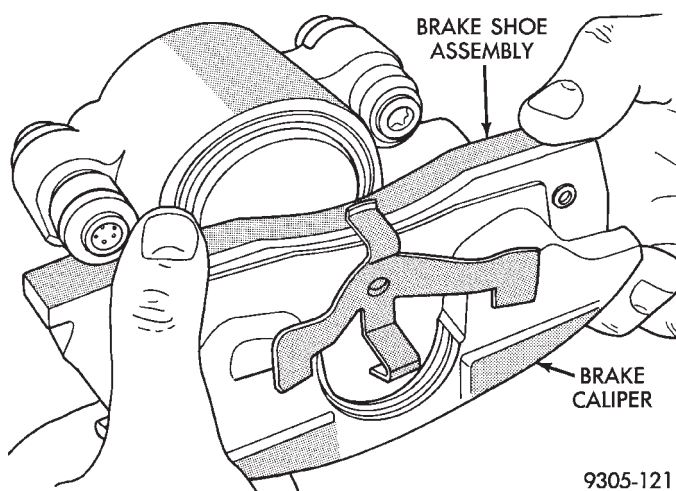

Fig. 37 Installing Outboard Brake Shoe Assembly
(5) Slide the new outboard brake shoe assembly onto the caliper assembly (Fig. 37).